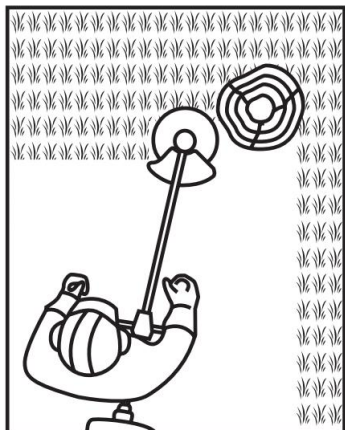

Fig. 48
2. Pay special attention when performing the work close to trees and bushes. The cutting head could damage sensitive bark, and damage fence posts (Fig. 48).